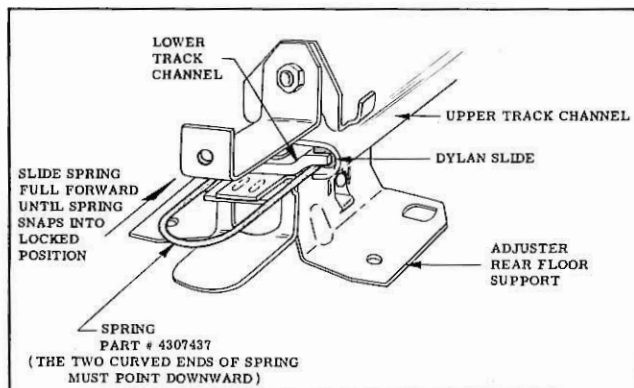

Fig. 9—Installing Spring
4. Install spring, Part No. 4307437, between upper and lower channels as shown in Fig. 9.